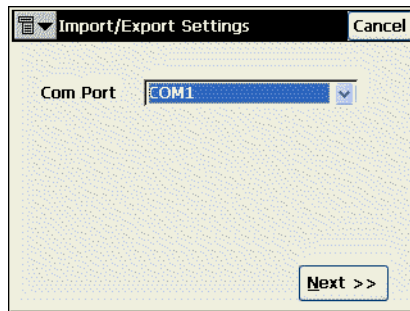

Figure 5-23. Import/Export Settings
2. On the *Import/Export Settings* screen, select the means of connection using the **Com Port** drop-down list, then tap **Next** (Figure 5-23).